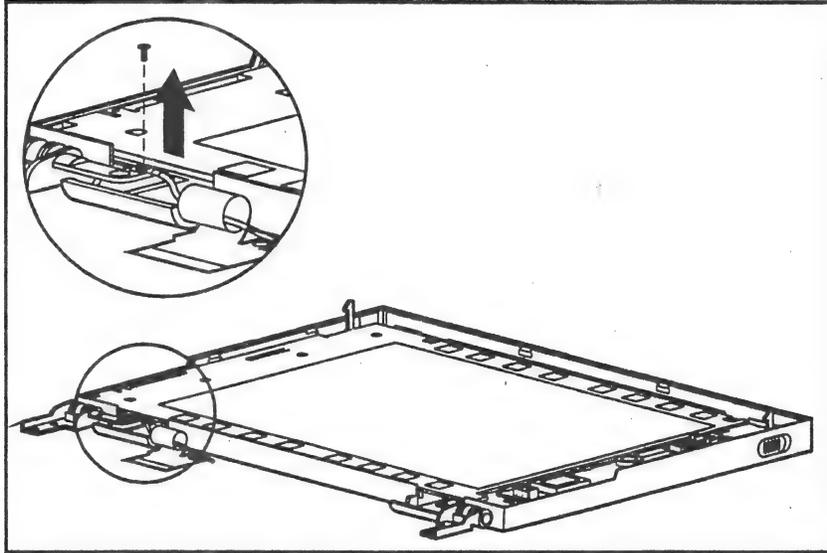

Figure 2-34. Removing the Two Screws
2. Remove the two screws that secure the display mounting tabs to the clutches (Figure 2-34).